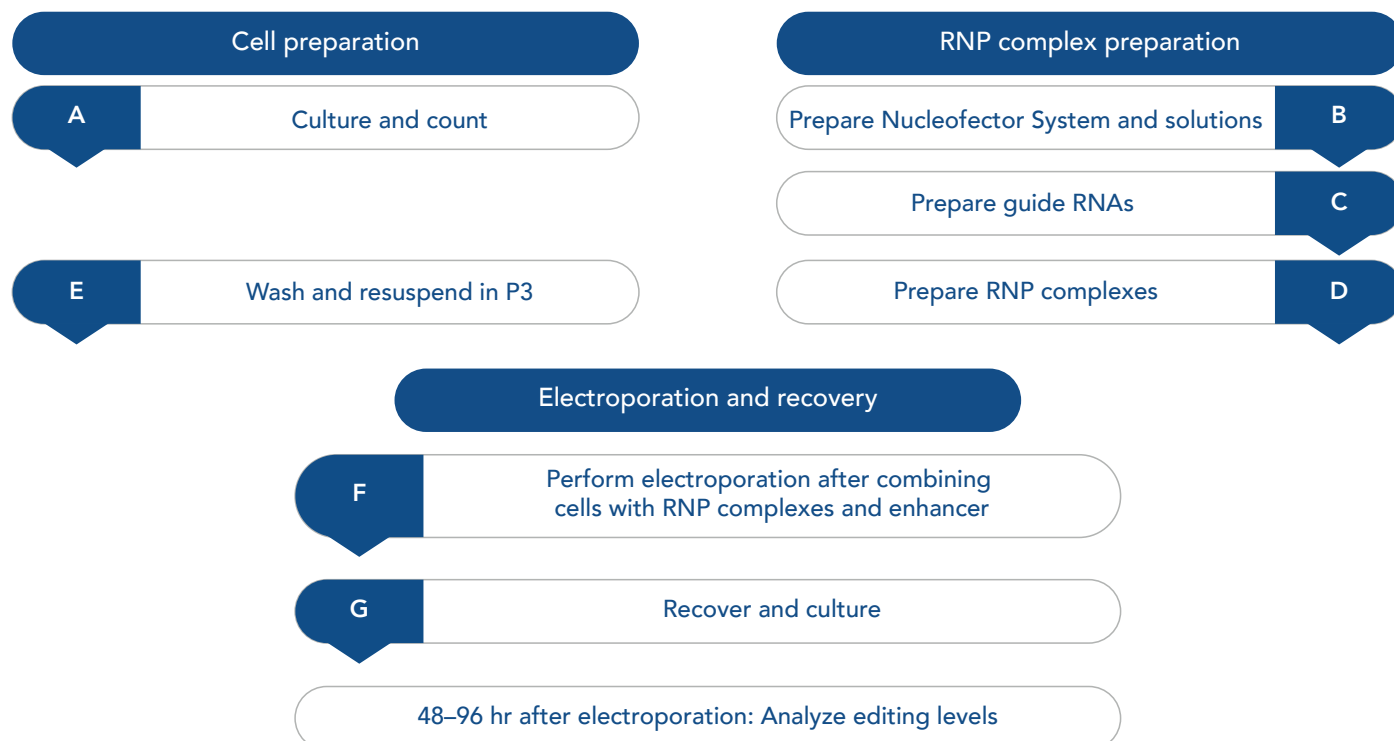

Figure 2. Overview of procedure.
4. We suggest limiting the duration of steps D and E in this protocol (see Figure 2). In experiments that include many samples, we recommend that one lab member prepares RNP complexes (step D) while another lab member simultaneously prepares cells for electroporation (step E):